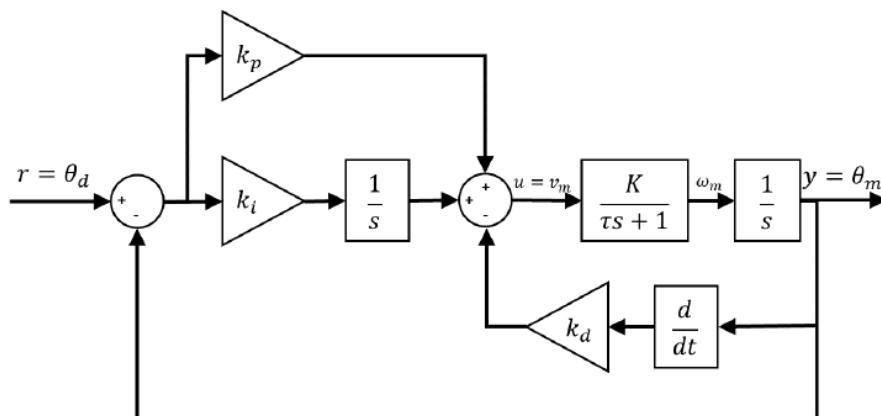
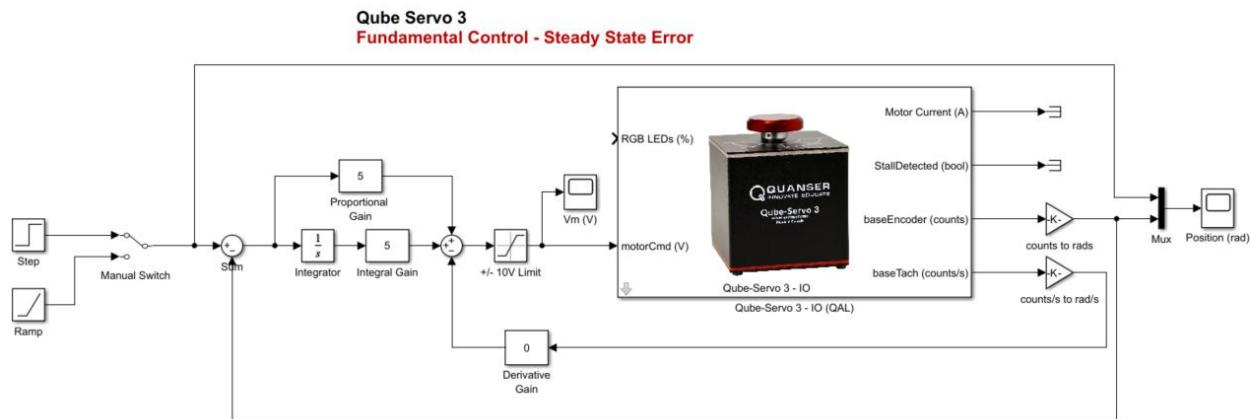

Figure 1: Block diagram of a PID controller
Figure 2: Simulink/QUARC model implementing PID position control.
Note that in the PID controller for this lab, the derivative gain is applied to the derivative of the output (that is, the velocity of the inertia disc) as shown in Figure 1 and this is sometimes called PIV control.
Use the qs3_sse.slx file. This model will implement a PID controller as described in the PID concept review and in Figure 1. Use the gain value found in previous labs to convert the encoder counts to radians and counts/s to rads/s. Connect all the blocks as shown in Figure 2. Use the manual switch to select either a step or ramp input.
- Open the completed qs3_sse.slx Simulink model, as shown in Figure 2.